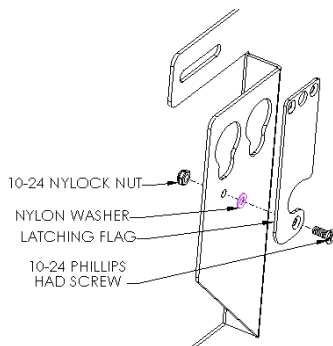

Figure 2
1. Attach the latching flag to the mount using the 10-24 Phillips flat head screw, Nylon washer, and Nylock nut (see Figure 2). Tighten until friction will hold the flag in place.